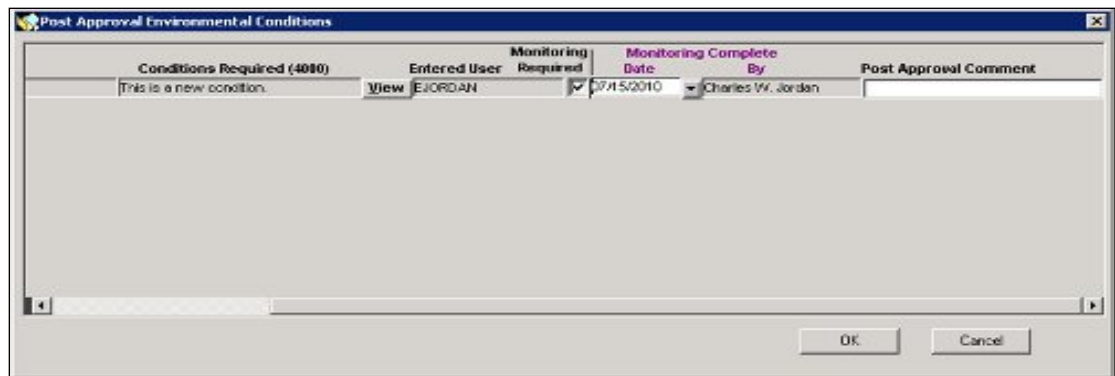

Figure 11-18: Monitoring Complete Comments Field
- c. Scroll to the right to access the Comment field (Figure 11-18).